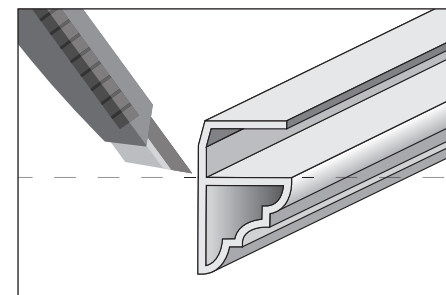
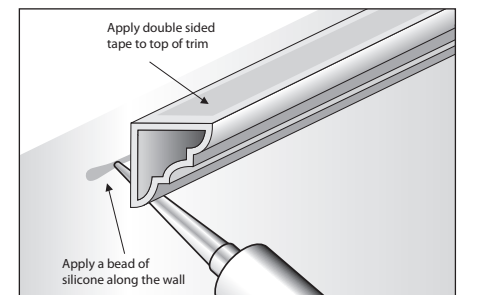

Fig.11
Fig.12
- **Alternatively**, another method would be to apply the end panel as normal and the coving separately. To do so ensure the last panel is in place and then remove the lip from the back of the final strip of coving using a Stanley knife and discard it (Fig.11). Fix to the ceiling and wall directly, using a combination of silicone and double-sided tape (run a bead of silicone along the wall and position the double-sided tape to the edge of the trim that will stick to the ceiling). The double-sided tape will hold the Coving Profile in place while the silicone sets (Fig.12).